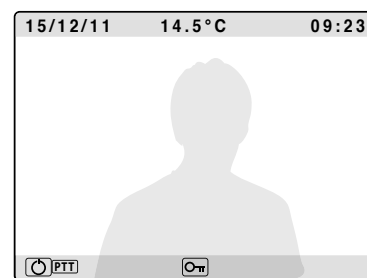

Fig. 14
- To switch from hands free to push to talk mode, keep pressed the  until the related LED starts to flash slowly (**Fig. 14**). Keep pressed the  button to talk to the visitor (the LED flashes quickly) and release the button (the LED flashes slowly) to listen the visitor;